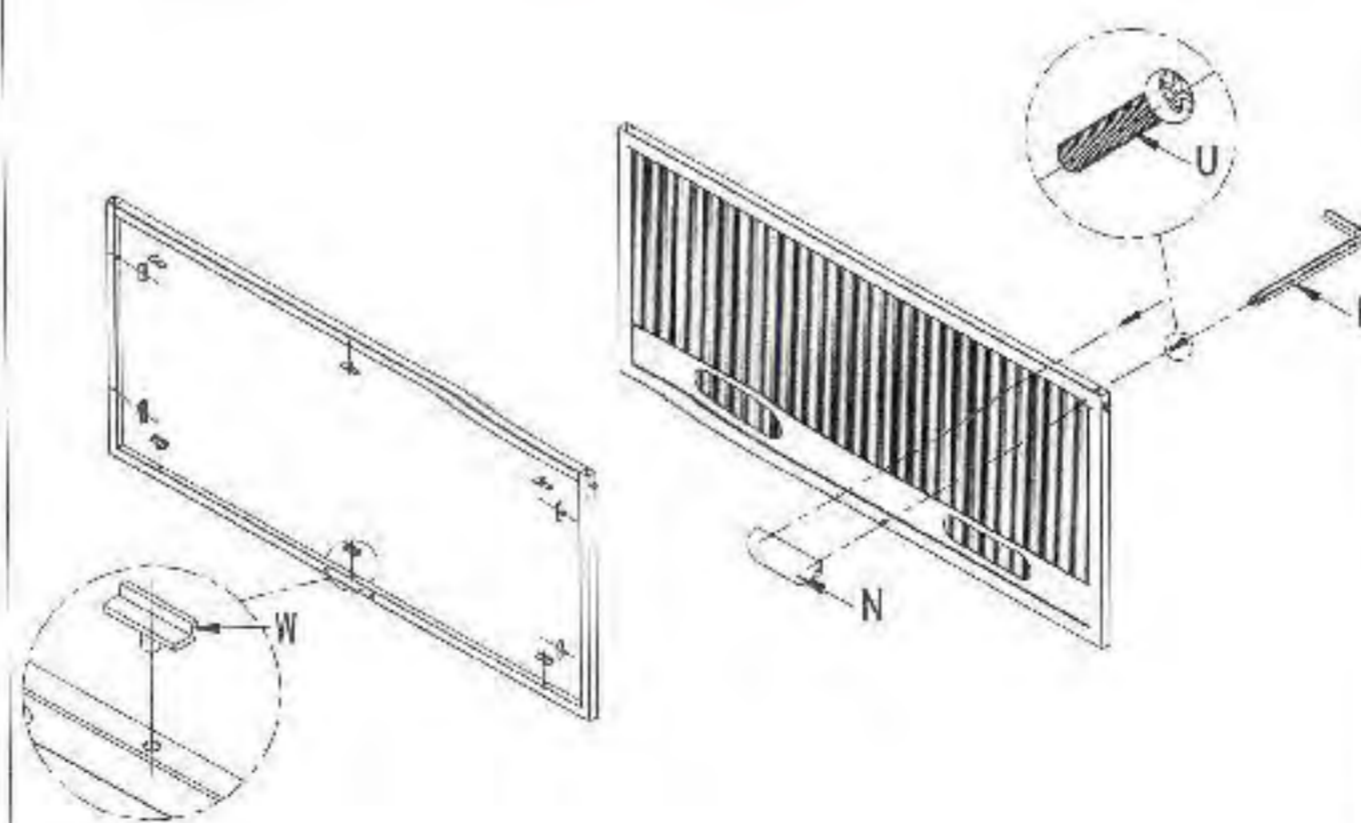
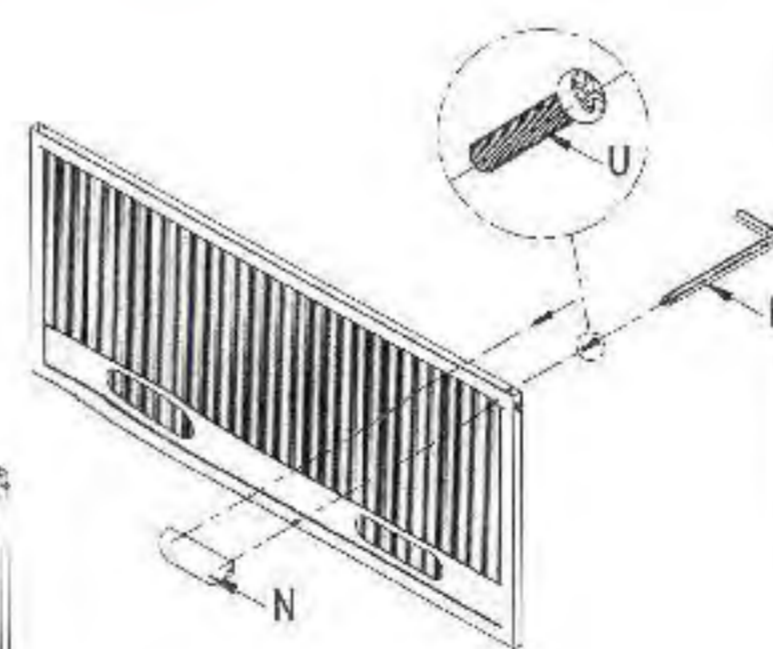

Figure 9
Figure 10
6. Turn the door panel of the installed acrylic panel over and press the door panel buckles into the holes in the direction shown in Figure 9 to fix it. Then use the cross pan head screws to fix the door handle from the back of the door panel to the door handle in the direction shown in Figure 10. Door panel